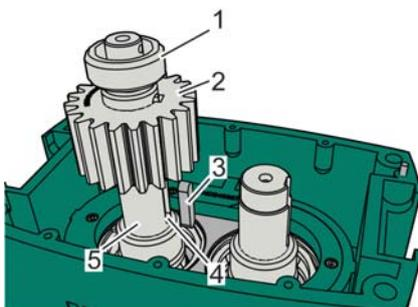

Fig. 99: Lifting the toothed wheel off the drive shaft, example
- 14. ▶ Remove the distance ring (Fig. 99/1) and the toothed wheel (Fig. 99/2) from the drive shaft (Fig. 99/5) and place to the side with the key (Fig. 99/3).